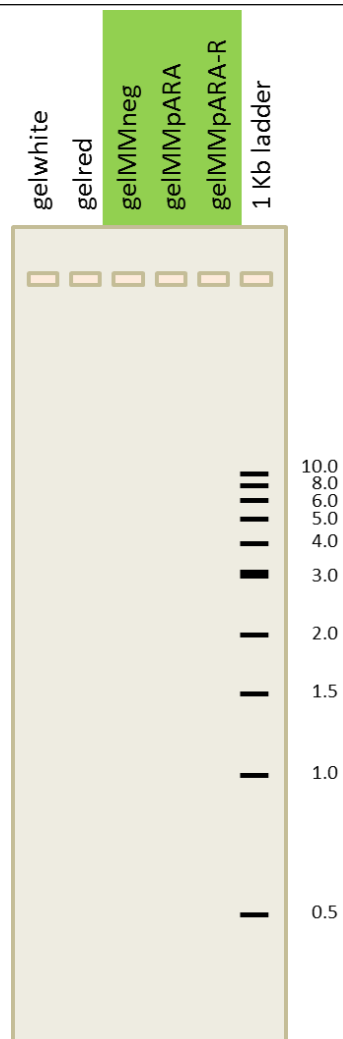

Figure 7.3 The DNA ladder diagram.
4. The DNA ladder serves as a standard because it contains a mixture of DNA molecules of known sizes. By running your samples and the DNA ladder side by side in your gel, you can estimate the actual size in base pairs of unknown DNA molecules. The DNA ladder diagram below shows 10 DNA bands of known sizes. Their sizes are given in kilobase (kb) pairs. 1 kb is 1,000 base pairs (bp). On the diagram predict the positions of DNA bands produced by the possible products found in the gelMMpARA, gelMMpARA-R, gelwhite and gelred tubes by indicating their position on the DNA Ladder Diagram (figure 7.3).